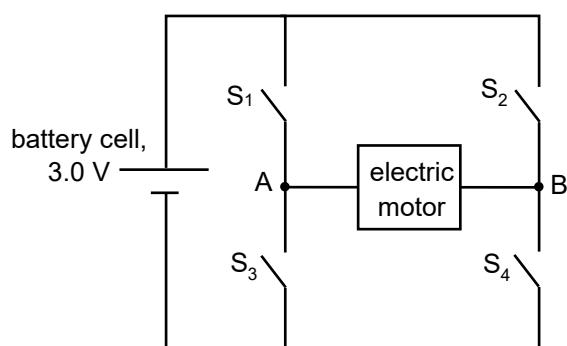

Fig. 8.2
- (b) The current from the battery must first be converted from a d.c. to an a.c before it can power the electric motor. This is achieved using a circuit known as an *Inverter*. Fig. 8.2 shows a schematic of a simple inverter.
- (i) The 4 switches S_1 , S_2 , S_3 and S_4 in Fig. 8.2 are electronically controlled to operate in pairs, so that at any one instant, 2 of switches will be closed while the other 2 will be open.